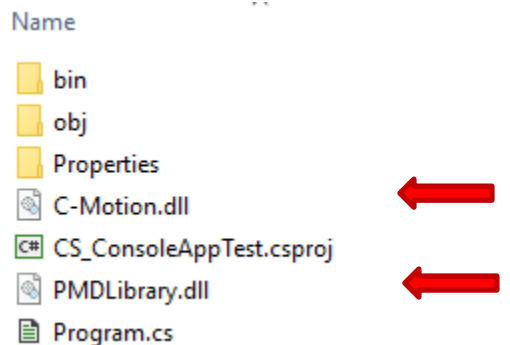

Figure 63 - VS2017 DLL Location
9) The appropriate (32bit (x86) or 64bit (x64)) dll files that are needed for the project should be pasted into the source folder of the project, in the same folder as Program.cs and Projectname.csproj, see Figure 63 - VS2017 DLL Location